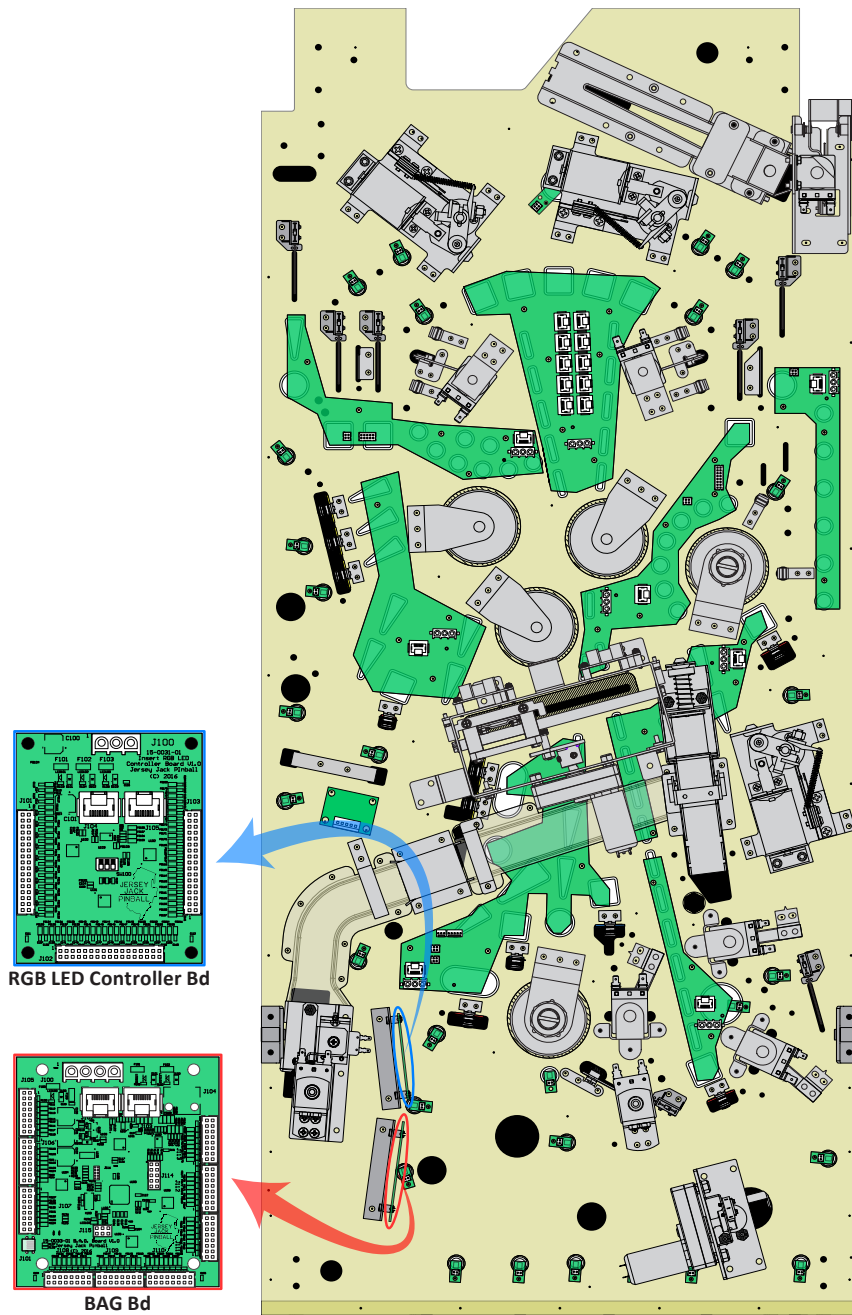

Figure E3. Dialed In lighting system controller boards.
The communications/control hub is the Bus, Accelerometer and GI (BAG) board; it is mounted, vertically, under the upper left area of the playfield (circled in red in figure E3). An on-board microcontroller receives data/commands over a USB connection to the CPU board (**J101**). Controls are then sent out, over an inter-integrated circuit (I2C) bus, to the game's light boards - and more, if needed. Communicating over an I2C bus, between printed circuit boards (**J102**, **J103**), adds a great deal of flexibility to the system. Simultaneous control of a wide variety of device types is now possible.
In Dialed In, the eight large RGB LED PCBs (under the playfield), the Smartphone RGB LED PCB (inside the Smartphone) and an RGB LED Controller board (circled in blue in figure E3) are used to control the game's feature lighting. 4VDC is run through these boards to provide power to all of the RGB LED boards around the playfield (above and below). This 4VDC is supplied by the 7.5/4VDC Power Supply, located inside the backbox PCBs EMI shield (item 2, pg C-46 of this manual). Each RGB LED Controller board can control up to 24 RGB LEDs, 8 through each of 3 driver connectors (**J101-J103**). Up to 8 individually addressable (0 through 7) RGB LED Controller boards can be used in a game. Controller board addresses are set using the 3-bank dip switch labeled **SW100**. In Dialed In, the RGB LED Controller board is set to address 0 (**SW100** -> 000).